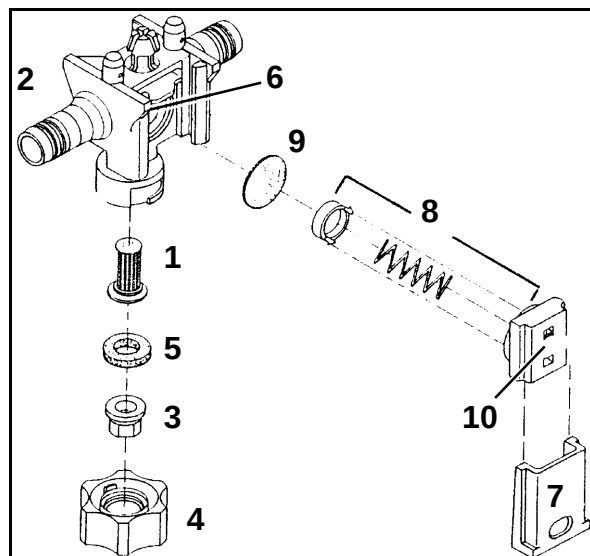

Fig. 124
1. From time to time check seat of tapered slide (Fig. 124/7). For this push the slide into the nozzle body (Fig. 124/2) as far as it is possible with slight pressure of your thumb. By no means push the slide into the nozzle body until its stop when it is new.
1. The nozzle filter (Fig. 124/1) is placed from below into the nozzle carrier (Fig. 124/2).
2. Insert the nozzle (Fig. 124/3) into the bayonet cap (Fig. 124/4).
3. Place the rubber seal ring (Fig. 124/5) above the nozzle.
Cause for **dripping** of the nozzles at a shut off boom feed is residue on the diaphragm seating (Fig. 124/6). Therefore the corresponding diaphragm should be cleaned as follows:
1. Pull the slide (Fig. 124/7) out of the nozzle carrier (Fig. 124/2) in direction of the bayonet cap.
2. Remove the spring element (Fig. 124/8) and the diaphragm (Fig. 124/9).
3. Clean the diaphragm seating (Fig. 124/6).
Pay attention to the correct fitting directions of the spring elements. The edges on the spring element housing (Fig. 124/10) are offset on the right and left hand side and should rise in direction of the boom profile when fitting.